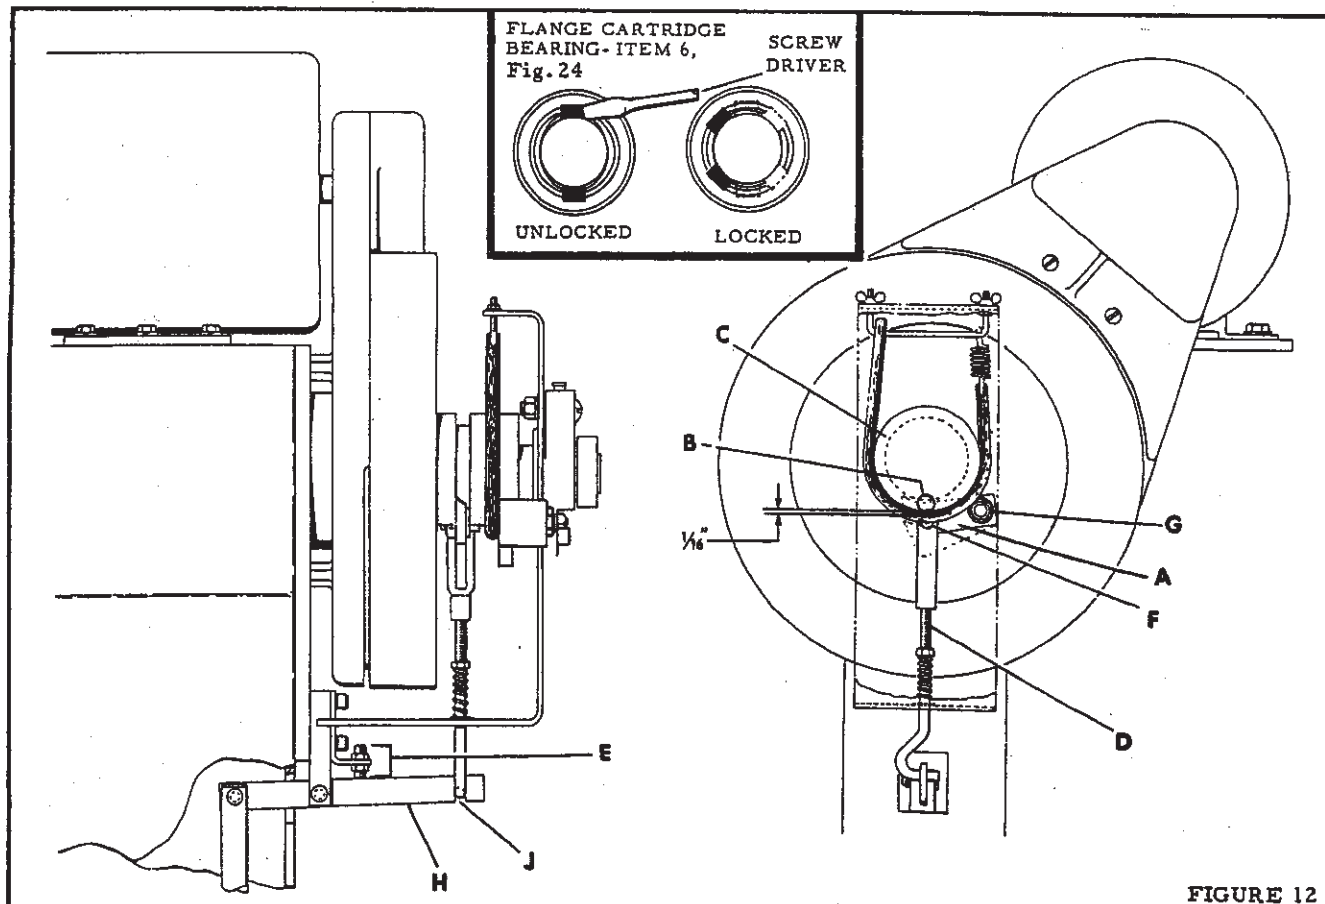

FIGURE 12
Flange Cartridge Bearing: (See Figure 12).
6. Using a screw driver or drift pin, unlock integral locking bearing by moving the clips to their unlocked position, see Fig. 12. Be careful not to scratch drive shaft. Bearing must be re-locked to drive shaft when replacing.
**CLUTCH PLATE (SEE FIG. 12).**
The clutch plate (index A, Fig. 12) holds the clutch pin (index B, Fig. 12) in a retracted position in the clutch hub (index C, Fig. 12). When the foot pedal is pressed, the clutch plate should lower sufficiently to clear the clutch pin, allowing the pin to spring forward to engage the drive pins in the drive wheel.
Proper clutch plate adjustment requires the clutch plate to be activated by the pull rod (index D, Fig. 12) after the post is in stitching position. The clutch plate must clear the clutch pin (index B, Fig. 12) by about one-sixteenth of an inch when the clutch plate is in its lowered position.
Slowly depress the foot pedal until the post is in stitching position. At this point, pull rod lever (index H, Fig. 12) should only slightly move if it moves at all. If the lever moves too much, lower set screw (index E, Fig. 12). If the lever moves after the post is in position, raise the set screw and securely tighten the nuts.
Pull down on pull rod (index D, Fig. 12) and rotate the drive wheel 1/2 revolution in the direction of the blue arrow on the wheel. The clutch plate should now be in the clutch hub slot as far as it can go. The pull rod should be in pull rod lever slot (index J, Fig. 12) within one-sixteenth of an inch of the top of the slot. If it is necessary to adjust the pull rod to attain this position, pull the rod down and rotate it 90 degrees. Then pull down pull rod lever (index H, Fig. 12) and adjust the rod in or out to attain its proper position. Turn the pull rod 90 degrees and put into lever slot (index J, Fig. 12).
Infrequently the machine may fail to stitch because the clutch plate has raised a burr on the clutch pin or hub; a condition that will cause the clutch pin (index B, Fig. 12) to stick in the hub. Remove burr to resume operations.
To extract clutch plate, take out cotter pin and clevis pin (index F, Fig. 12) and remove hex nut and washer, Index G. Assemble in reverse order.